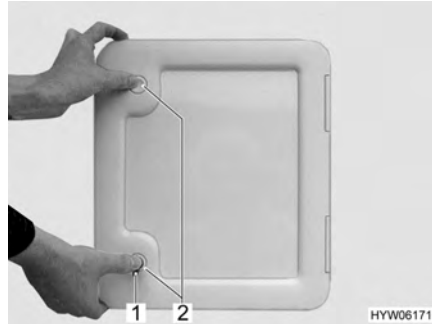

Fig. 36 Flap for toilet cassette
- Insert key into locking cylinder (Fig. 36,1) of the push-button lock and turn a quarter turn.
- Press both push-button locks (Fig. 36,2) simultaneously with your thumb and open the flap for the toilet cassette.
- Insert key into locking cylinder (Fig. 36,1) and turn a quarter turn.